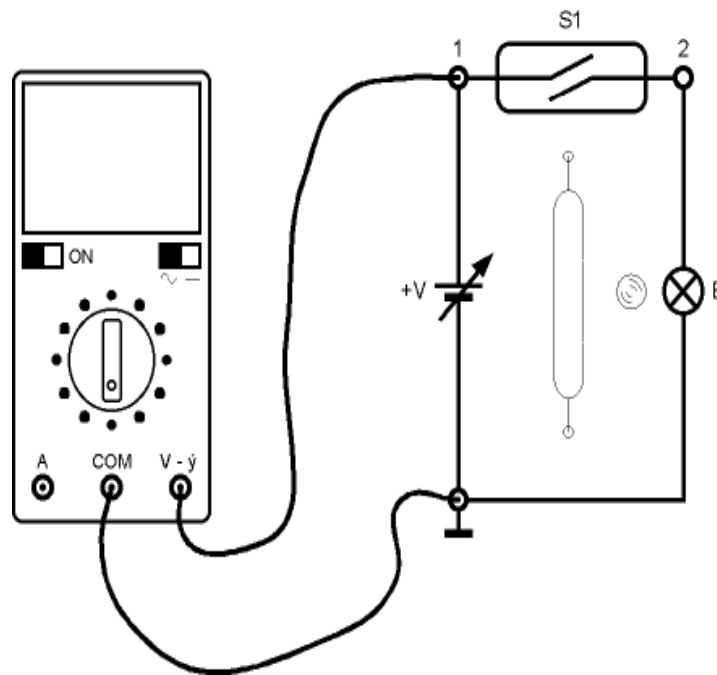

Fig. 4.4: Topographical diagram of Magnetic Switch
10. Connect a multimeter, set as voltmeter, between jack 1 and ground (Fig.4.4);